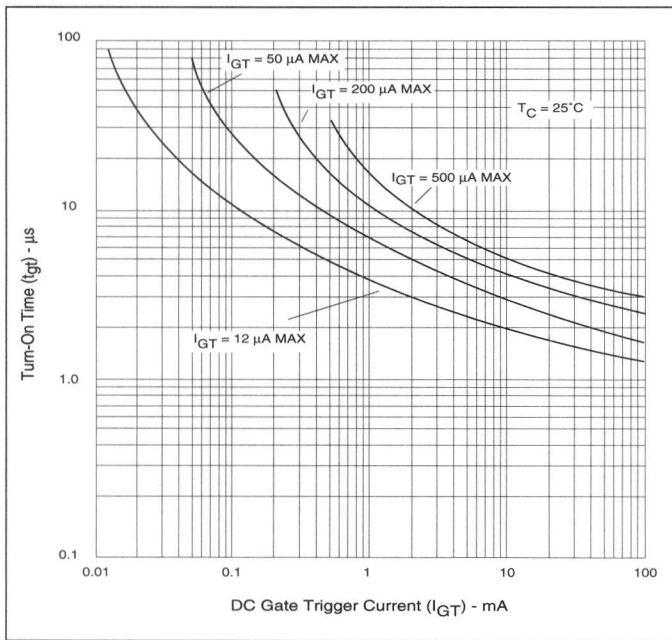

Figure 5.15 Typical Turn-On Time vs Gate Trigger Current
- See Figure 5.15 for t_{gt} vs I_{GT} .